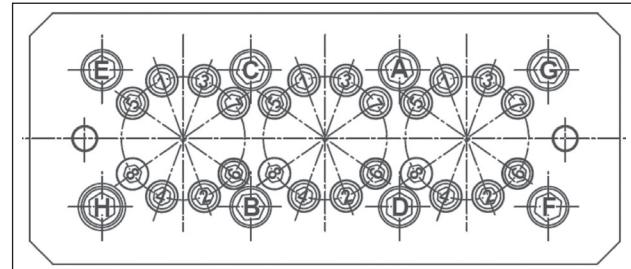

Fig. 50
** The head fixing screws must be tightened respecting the phases and order shown in the diagram in Fig. 50.
*** The liner fixing screws must be tightened respecting the phases and order shown in the diagram in Fig. 50.